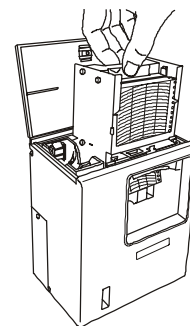

Fig. 2
2. Pull the cartridge up after opening the top lid. The lid can be opened by turning the knob counterclockwise. See Fig. 2.
NOTE: Loading a ink pen, turn the power OFF and then ON again to return to the normal mode. (Refer to Fig. 2 when loading a ink pen cartridge.)
3. Press both sides of the pen arm as indicated by the arrows to open the head clamp at A and B. (See to Fig. 2 illustration 1)
4. Position the ink pen so that the guide pins fit into the guide holes on the pen arm. (See to Fig. 2 illustration 2)
5. Press the two sides of the head clamp as indicated by the arrows to secure the ink pen. (See to Fig. 2 illustration 3) From the side view, the cartridge should fit perfectly on the arm. Confirm that the pen arm is attached to both sides of the ink pen.